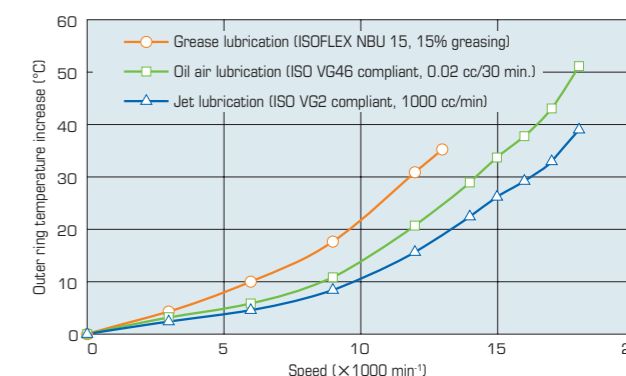

Figure 6.5 Comparison of Temperature Increase Caused by Different Lubrication Methods
- For an example illustrating the difference in bearing temperature increase due to lubrication method, see Figure 6.5.